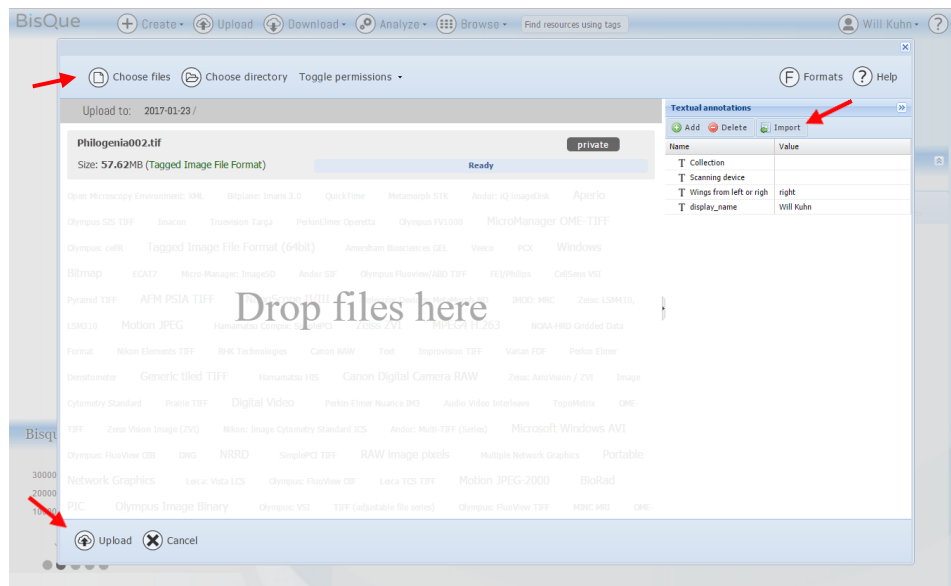

Figure 16. BisQue's upload window.
5. Very important: Click **Toggle permissions** > *Set as published* (Fig. 16) at the top of the window.
6. Click on **Upload** at the bottom of the window (Fig. 16) and the images will start to upload, one at a time. This process may take a while as the files are quite large; go have a coffee! When they're all done, a message will appear saying that the upload was successful. Note: often, a few images fail to upload successfully, in which case **Re-upload failed** will appear beside **Cancel**. Click it to retry the failed uploads. Also, if the upload hangs for several minutes, you can click **Cancel** then **Re-upload failed**. **All images must upload successfully in order to complete Step 7.**